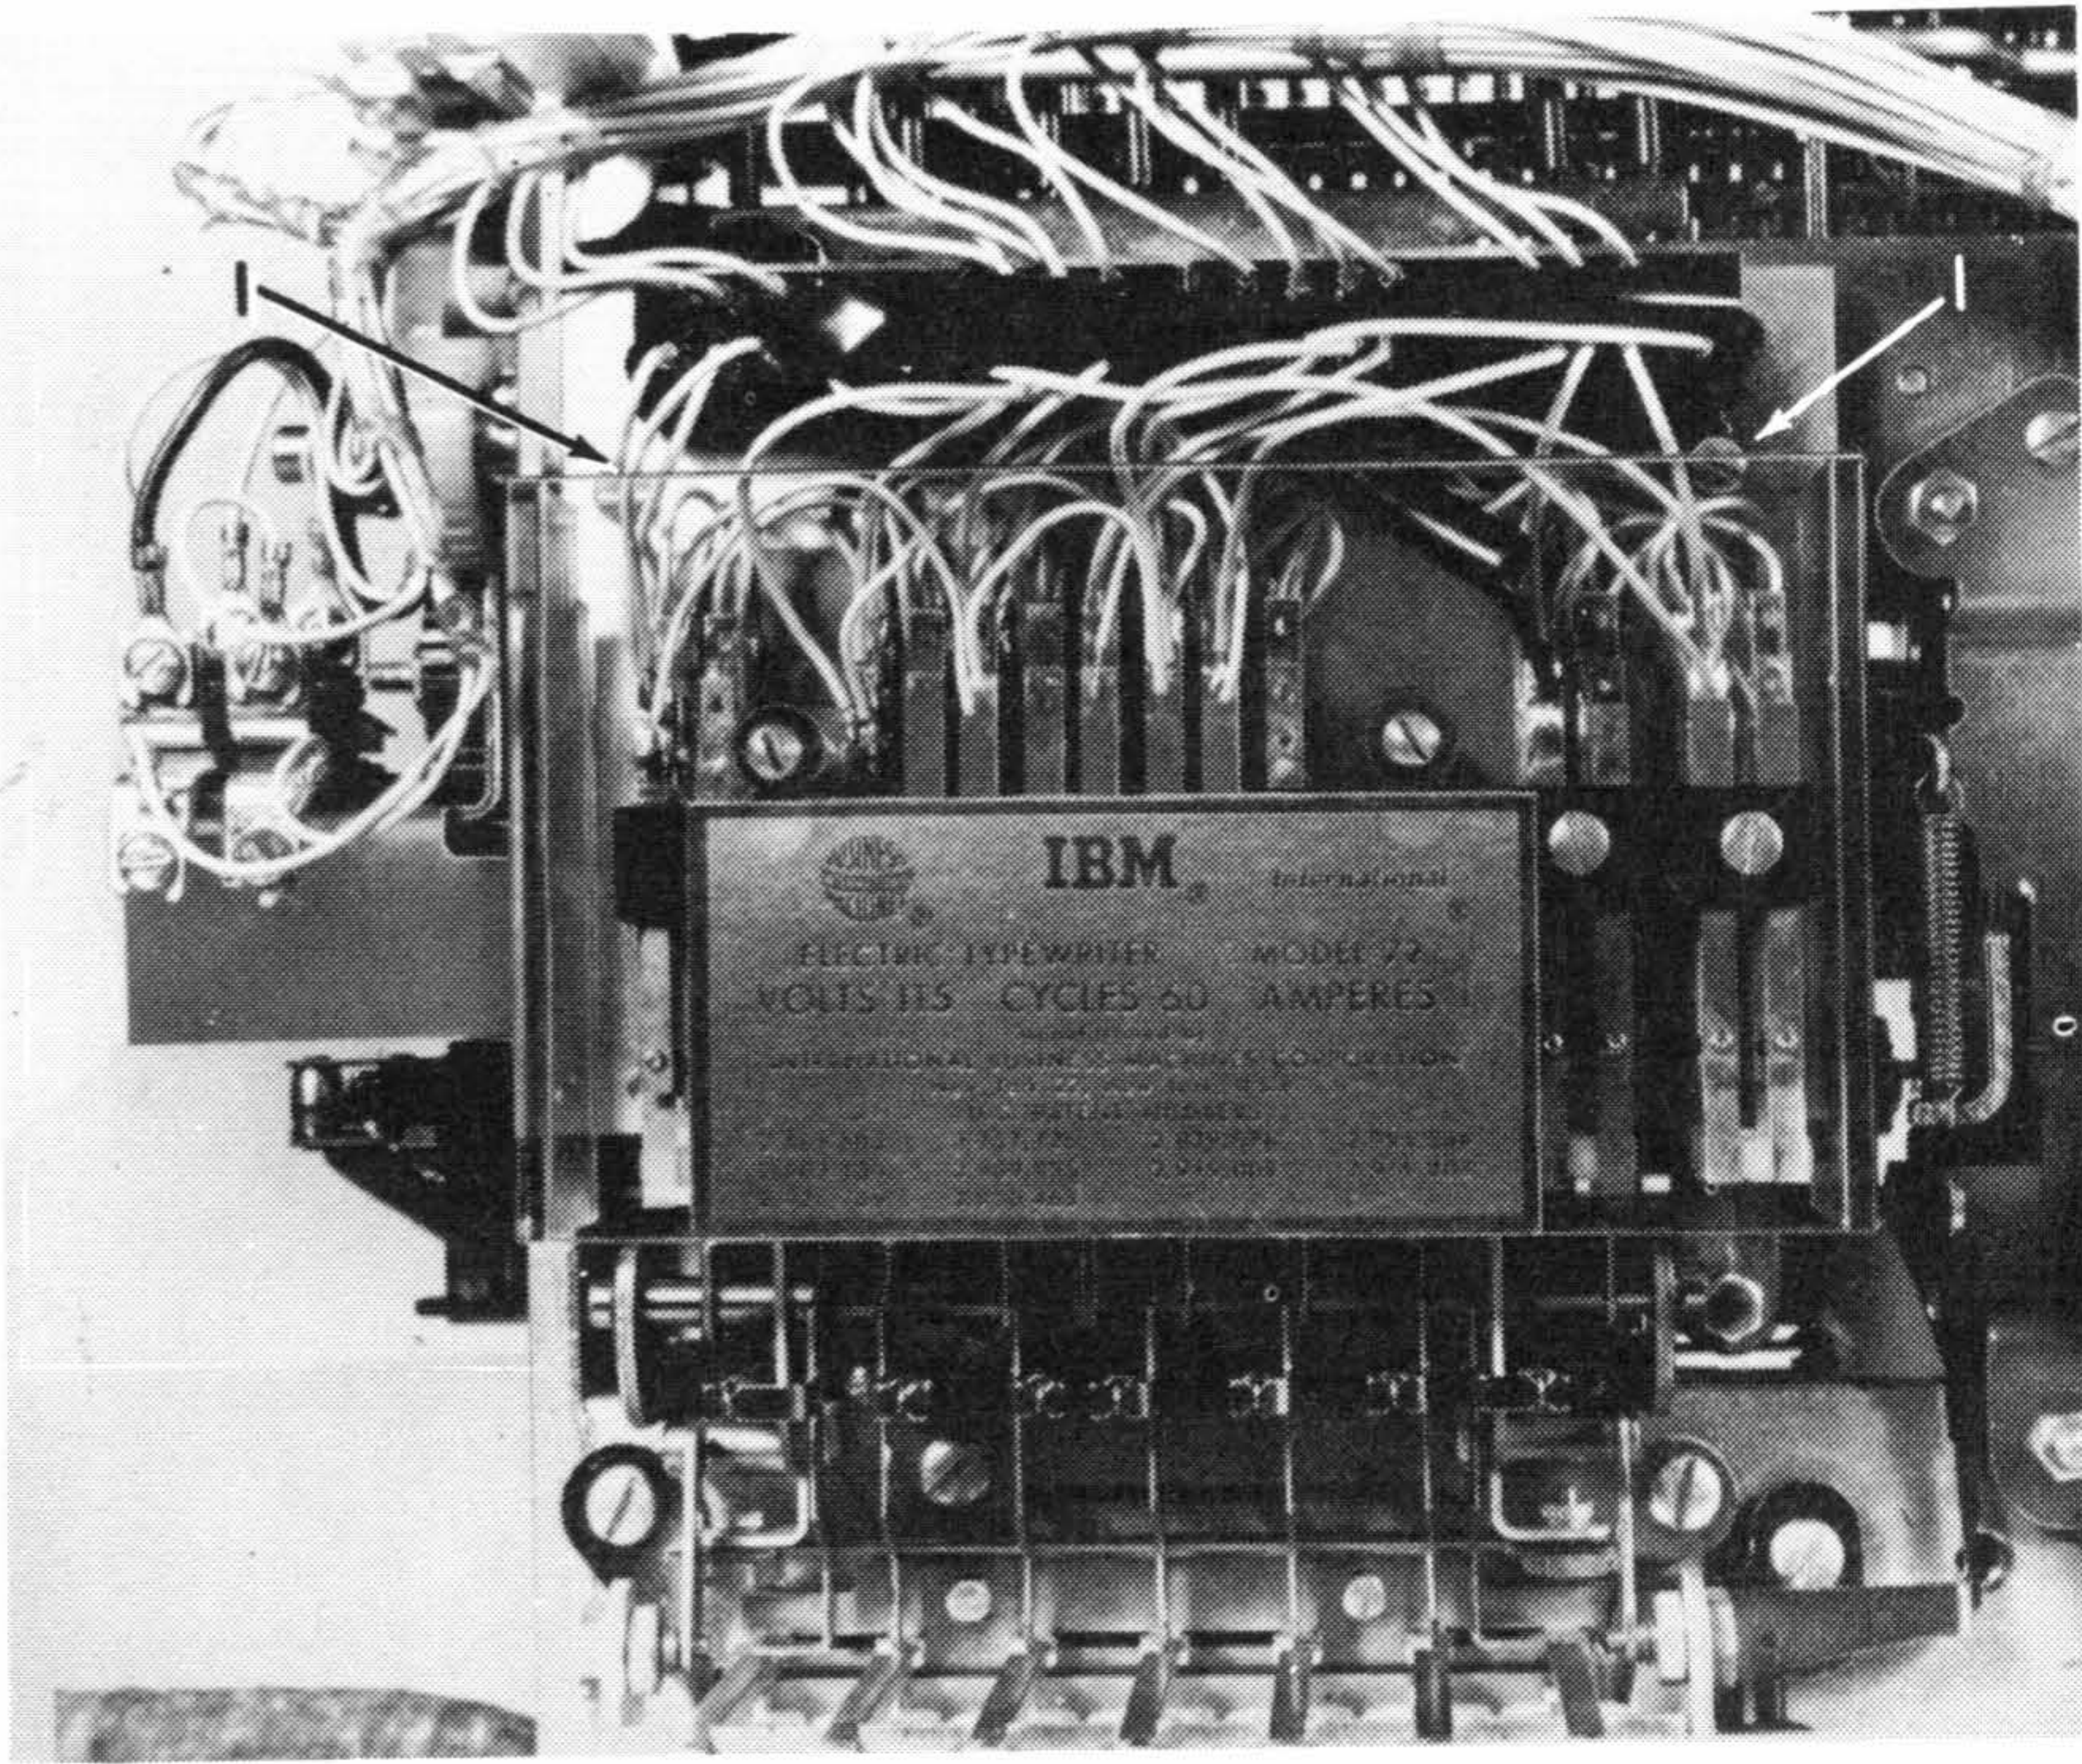

Figure 12. Rotate Spring Replacement
4. Remove the two screws (#1, Figure 12) that hold the contact plate to the frame. Remove the contact assembly, holding it to the front with a rubber band.
3. Remove the two screws (#1, Figure 12) that hold the print contact plate to the frame. Remove the contact assembly, holding it to the front with a rubber band.